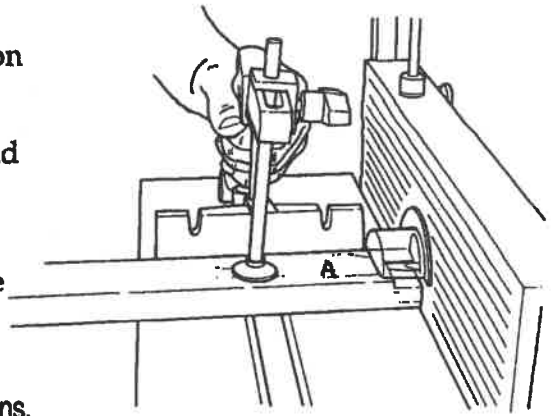

Fig. C-7
8. Hold the "A" workpiece against the miter gauge and make the first cut. This cut forms the first shoulder of the tenon. See Fig. C-7.
9. Turn off the router and Dust Collector, and remove the guard (13). Lower the slide TWICE the number of turns you had raised the slide in Step 6.